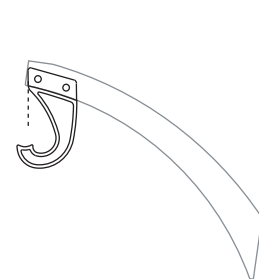

FIG. 5.0
- Place J-Hook onto Angle Bracket. Flush with the front (Fig. 5.0).